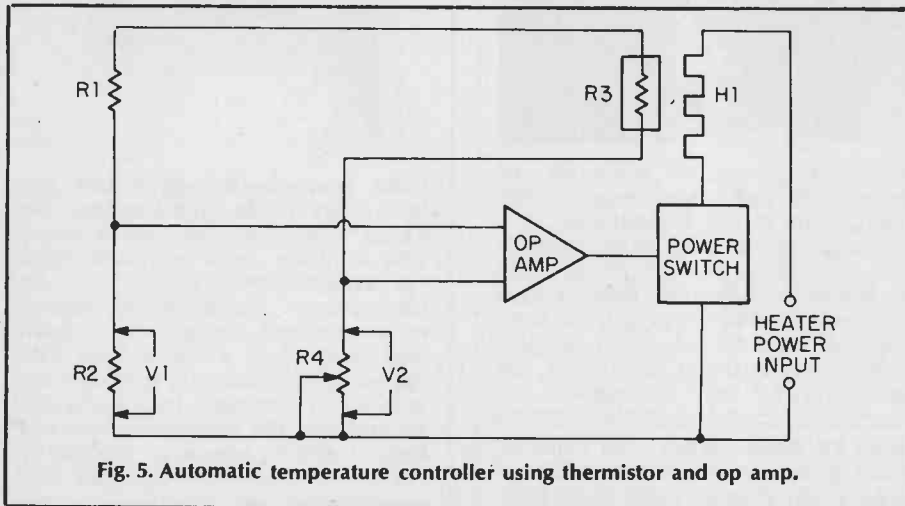

Fig. 5. Automatic temperature controller using thermistor and op amp.
**Other Applications.** Thermistors have found extensive use in temperature controllers. A typical circuit is shown in Fig. 5 where  $R1$ ,  $R2$ , thermistor  $R3$  and  $R4$  form a bridge network.  $R3$  is located in close proximity to the heater,  $R4$  is used to select the desired temperature;  $A1$  is an op amp that senses the difference in voltage between  $V1$  and  $V2$ . When  $V2$  is smaller ( $R3$  is large), the op amp turns on the power switch and the voltage is applied to the heater,